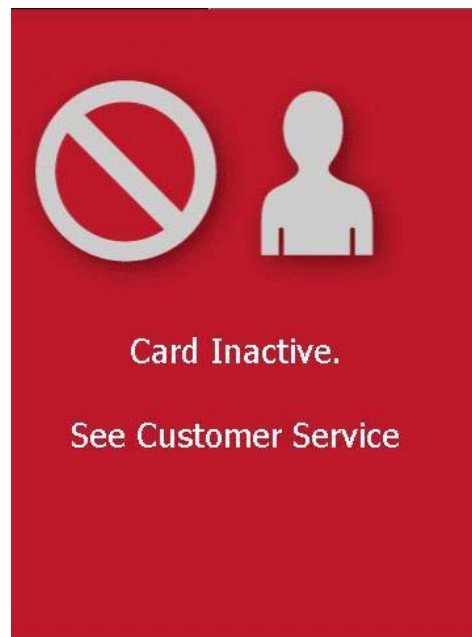

Figure 4-13 Card Inactive
- 4.1.1 Card Inactive** When a cardholder taps a not activated Farecard on the OV|41, the screen shown in **Figure 4-13** appears.